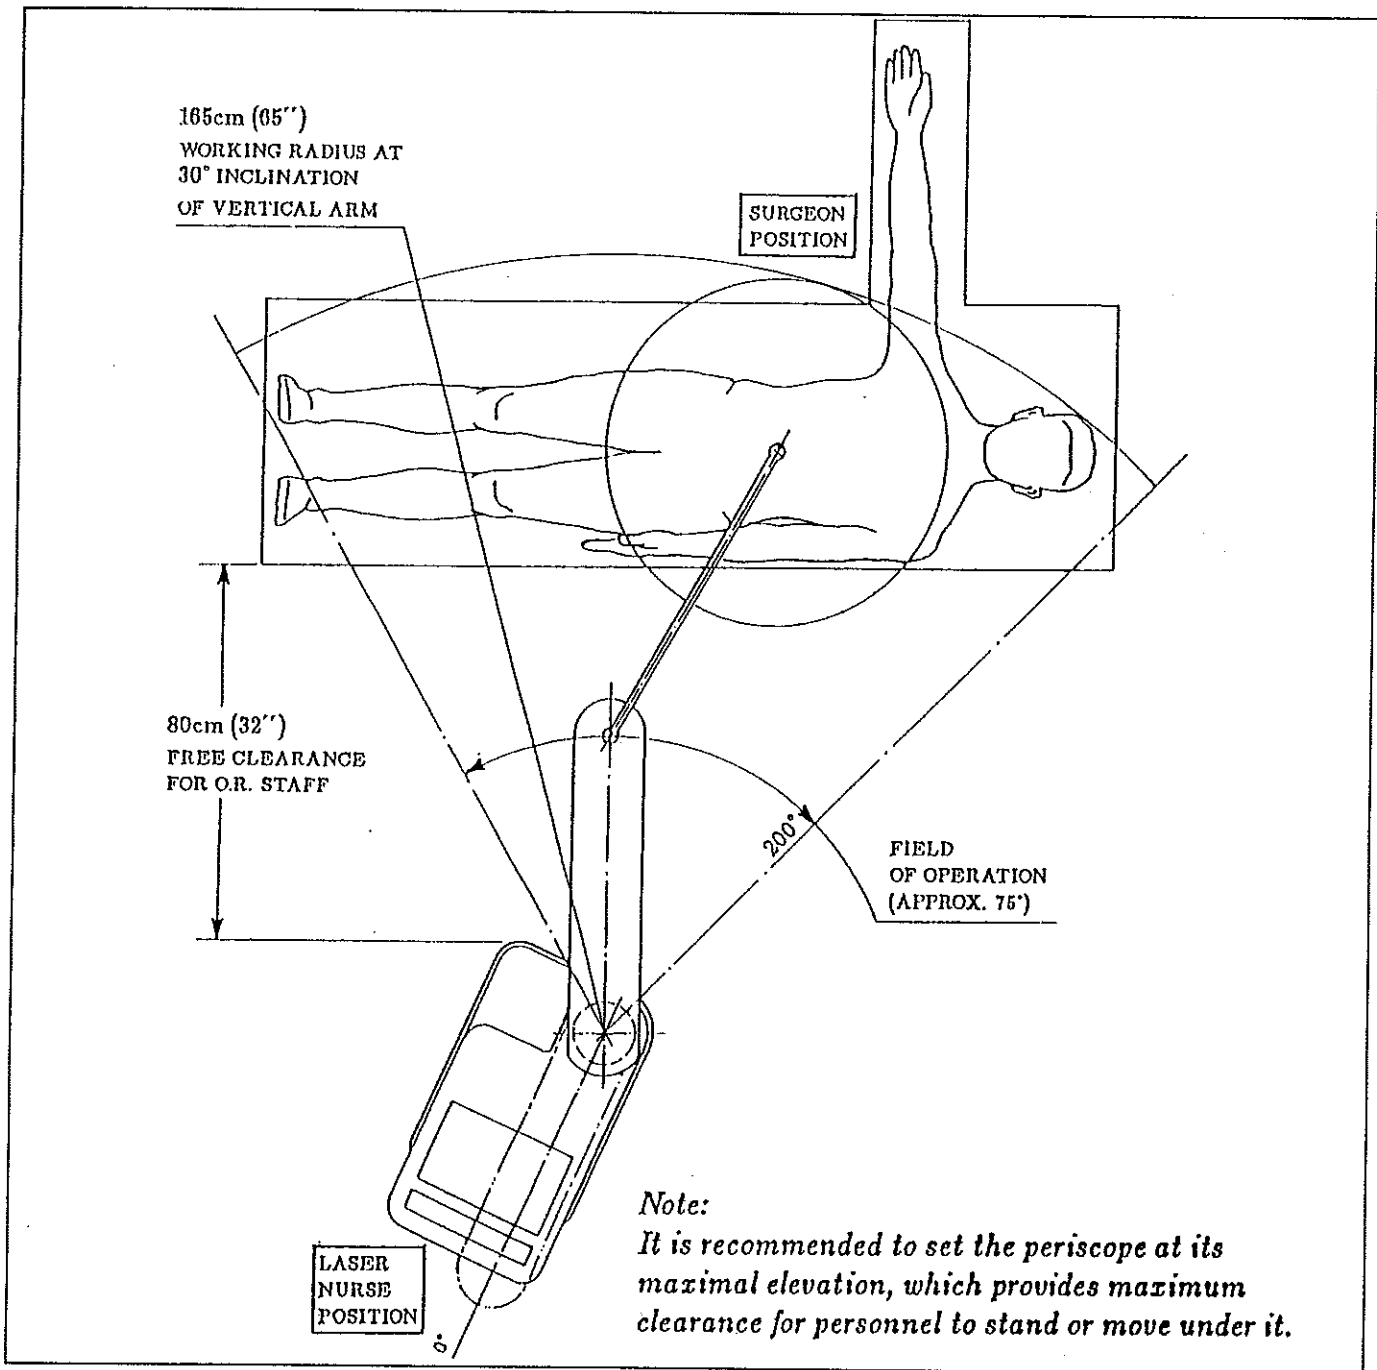

Figure 5-1. Recommended O.R. Layout
1. Push/pull the unit, using the large handle, into its desired position in the O.R. Use the small handle to rotate the unit to the required orientation. Press the brake pedal to lock the wheels of the unit. The recommended O.R. layout is shown in Figure 5-1.